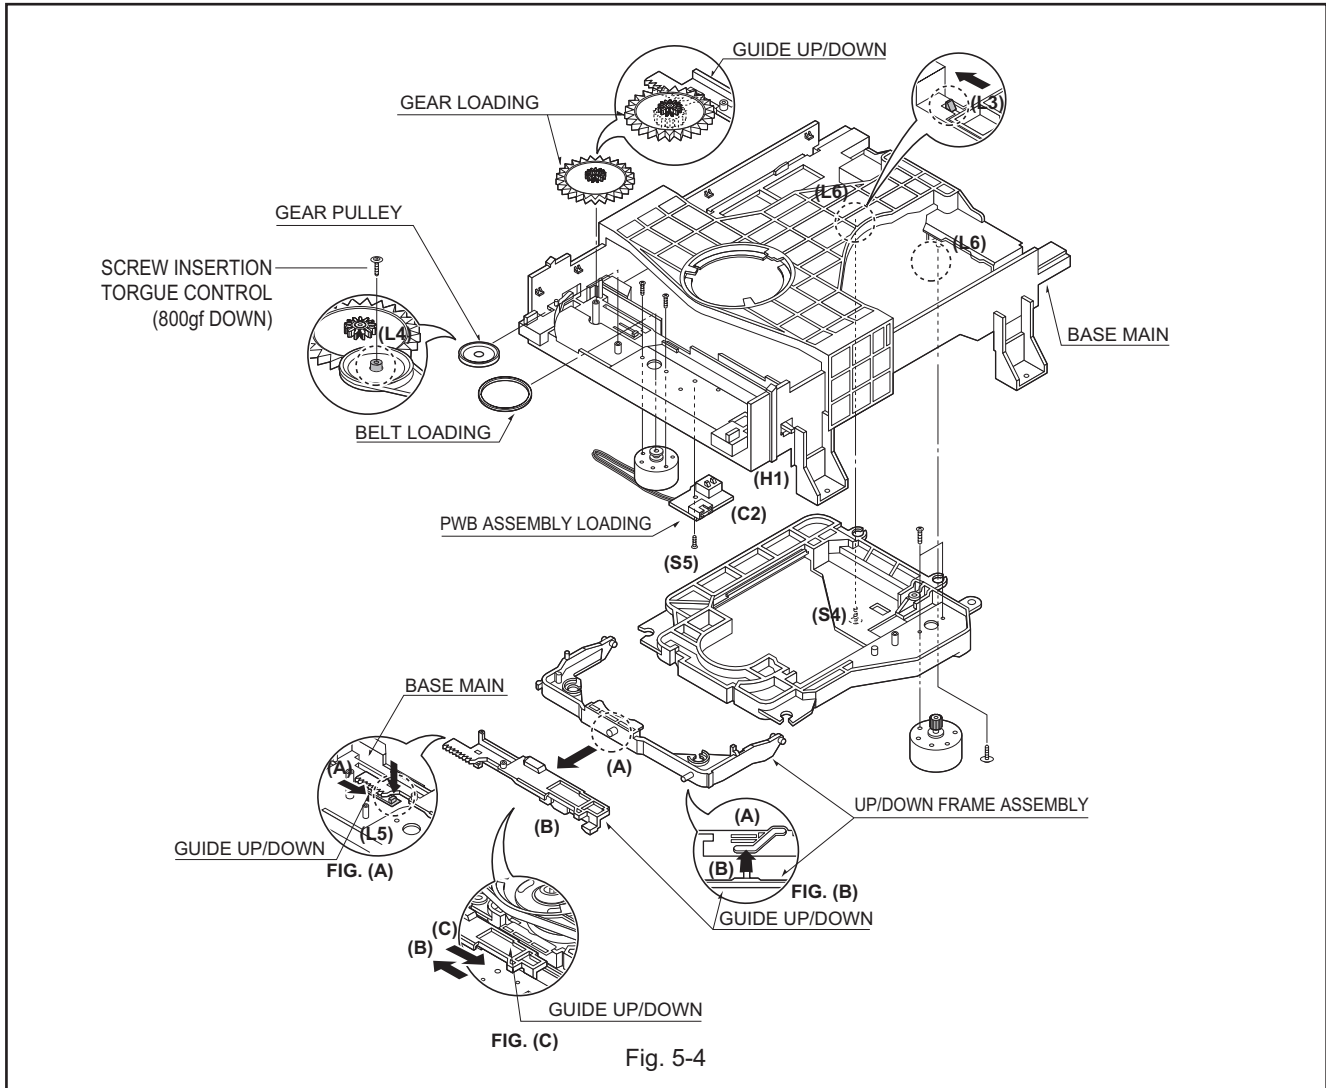

Fig. 5-4
**5. Frame Assembly Up/Down (Fig. 5-4)**
- When reassembling move the Guide Up/Down in direction of arrow(C) until it is positioned as Fig.(C).
- When reassembling insert (A) portion of the Frame Assembly Up/Down in the (B) portion of the Guide Up/Down as Fig.(B)
**6. Belt Loading(Fig. 5-4)**
**7. Gear pulley (Fig. 5-4)**
- 1) Unlock the Locking Tab(L4) in direction of arrow(B) and then separate the Gear Pulley from the Base Main.
**8. Gear Loading (Fig. 5-4)**
**9. Guide Up/Down (Fig. 5-4)**
**10. PWB Assembly Loading (Fig. 5-4)**
**11. Base Main(Fig. 5-4)**